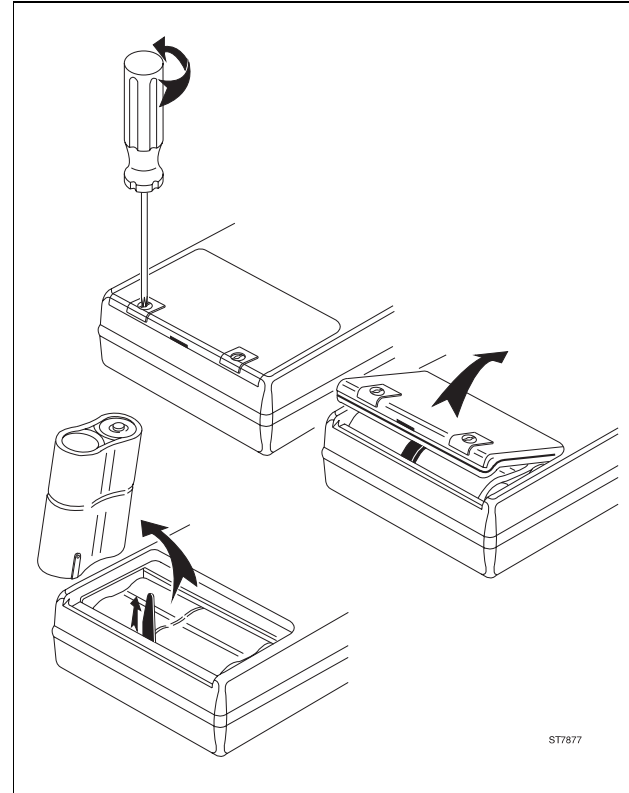

Figure 9-1 Battery Replacement
6. Install a new NiCad battery pack (PM9086) or new alkaline (C Cell) batteries (type KR27/50 or R14) as shown in Figure 9.1.
Ensure that the NiCad battery pack charging contact is aligned in the battery compartment as shown in Figure 9.1. Use only the PM9086 NiCad battery pack.